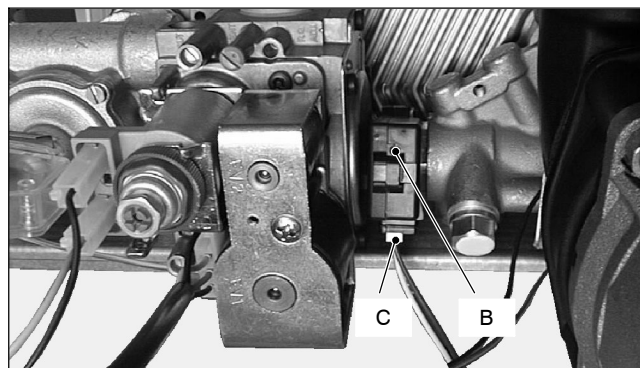

Fig. 59
- 2 Switch on the boiler and open a d.h.w. tap. The lamp *B* (Fig. 59) placed on the sensor body is switched on when the flow rate reaches about 2,5 litres/min'.
- 2 Disconnect the connector *C* (Fig. 59) and remove the sensor by pulling it towards the front of the boiler (the sensor is held in place by means of a spring).